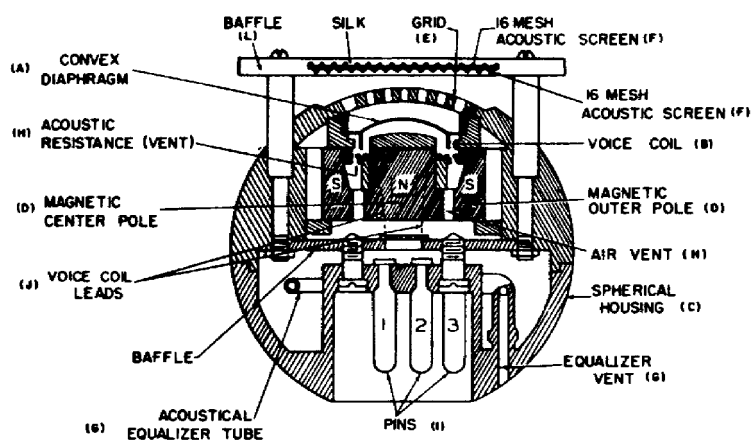

Figure 3-7. Cross-sectional view of Western Electric 620B
b. Figure 3-7 shows a cross section view of the 630B microphone. The diaphragm (A) is of Dural, approximately 0.5 mils in thickness, and weighs 25 milligrams. Cemented to the rear of the diaphragm is a voice coil (B).
c. The body of the microphone (C) consists of a molded spherical housing containing a permanent magnet (D) with a center pole piece over which the voice coil is centered. The edge of the diaphragm is hinged and supported at the edges by the housing. The outer surface of the diaphragm is protected from damage by perforated grid (E).
d. A two-layer circular mesh screen baffle, (F), with layers of silk between the screens, is placed in front of the diaphragm.
f. At the lower left is a small metal tube (G) termed an acoustical equalizer. Its function is to release air pressure behind the diaphragm to prevent distortion of the diaphragm during its inward travel.
g. Working in conjunction with this tube are two air-release vents (H) under the voice coil to provide acoustical resistance. External pins (I) provide connections to the voice coil lead (J).
h. The (L) baffle is used to assist in achieving a directional characteristic.